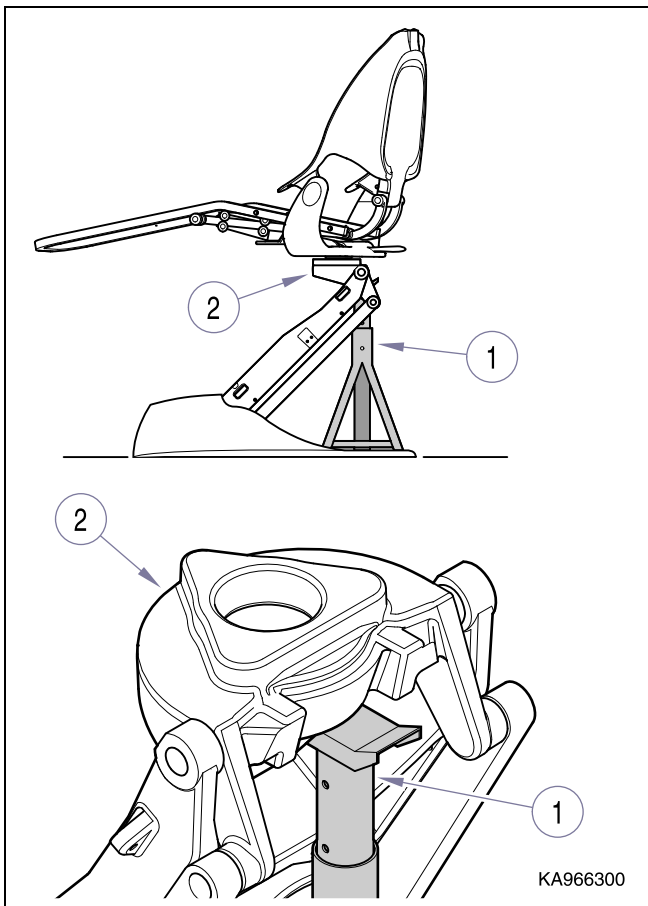

Figure 4-14. Hydraulic Solenoid Valve Assembly.
When base is completely down and back is totally reclined, hydraulic fluid level in reservoir (Fig. 4-14) should be 3 1/2" (8.9cm) from bottom of reservoir.
- c.) Place jack stands (1, Fig. 4-14) beneath upper lift casting (2) and lower chair onto stands so no pressure or weight is on base cylinder.